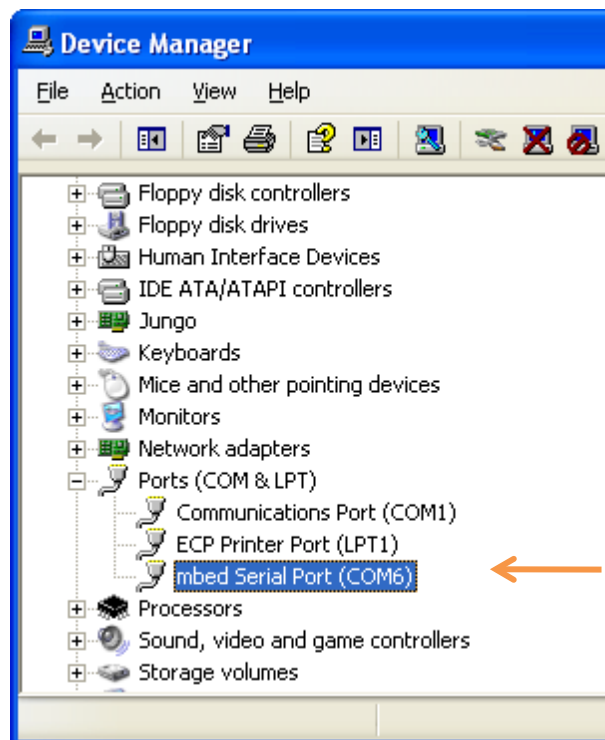

Figure 5. COM port associated with the LinkIt 7687 HDK
- In **Device Manager**, navigate to **Ports (COM & LPT)** (see Figure 5).
- A new **COM** device should appear under **Ports (COM & LPT)** in **Device Manager**, as shown in Figure 5. Note the **COMx** port number of the serial communication port, this information is needed to send command and receive logs from the COM port.
- 3) Select the COM port number that maps to the mbed serial port shown in Figure 5.